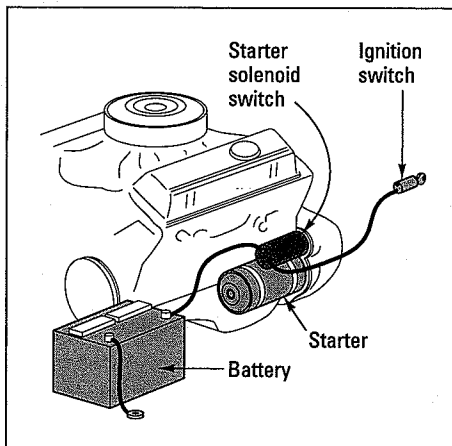

Figure 4-1:
1. When you turn the key in your car's ignition switch to Start, you close a circuit that allows the current to pass from your battery to your starter via the starter solenoid switch. (See Figure 4-1.)